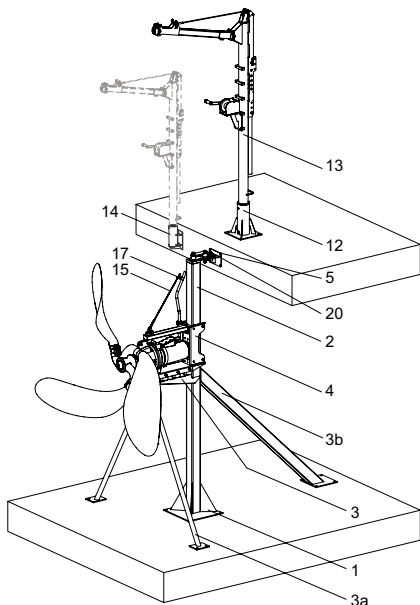

Fig. 13 Installation of AFG flowmaker
Position numbers in figures 13 and 19
14. Mount the lifting wire (pos. 15, fig. 13) on the motor bracket using the shackle. See fig. 20.
17. Position the crane in the foot (pos. 12 or 14, fig. 13), and mount the lifting wire in the drum of the winch.